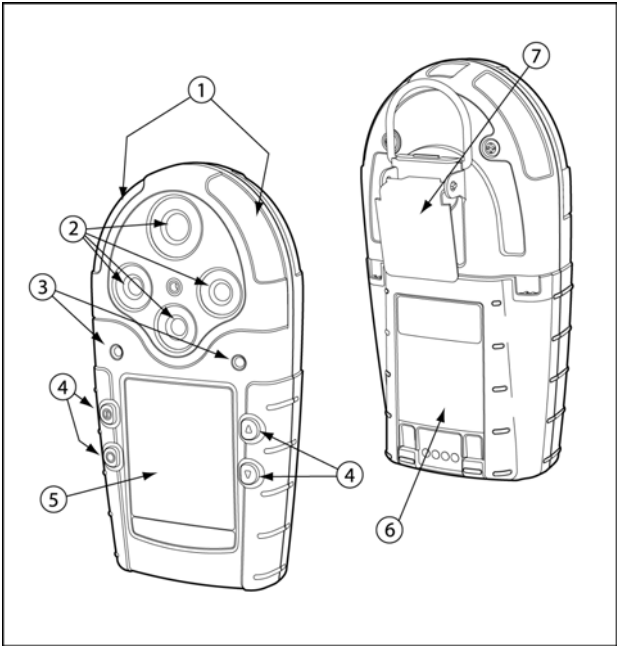

Figure 1. GasAlertMicro 5 Detector
- Figure 1 and Table 3 describes the detector's components.